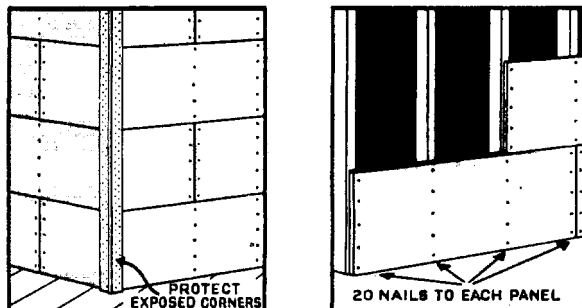

Fig. 1. Application of Simpson Insulating Lath.
5. Application of Exterior Finish Over Sheathing [see Fig. 1].
4. Reinforcing Corners and Angles. All outside corners shall be reinforced with metal corner beads (see Fig. 1). Reinforce all re-entrant angles with standard expanded metal lath strips 6 inches wide bent into the angle and secured in place by nailing. All metal lath reinforcing shall be nailed through Simpson Insulating Lath into framing. Use 6-inch strips of expanded metal lath to reinforce all joints between frame and masonry construction.